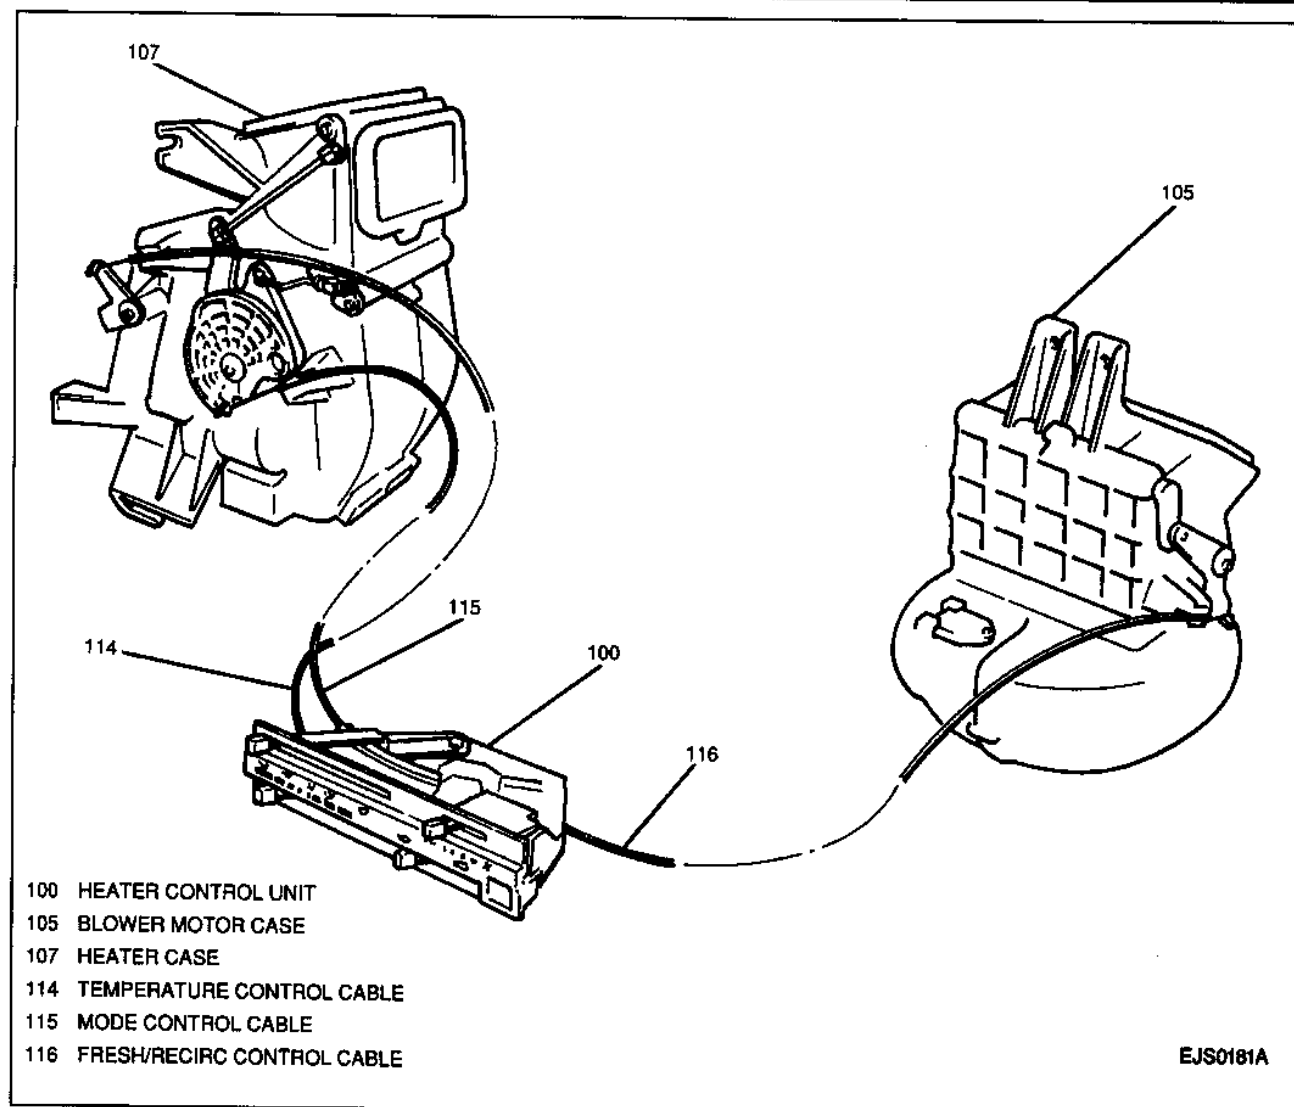

Figure 13—Control Cables
7. Mode control cable from heater control unit and heater case (Figures 13 and 14).
9. Fresh/recirc cable from heater control assembly and blower case (Figure 13).